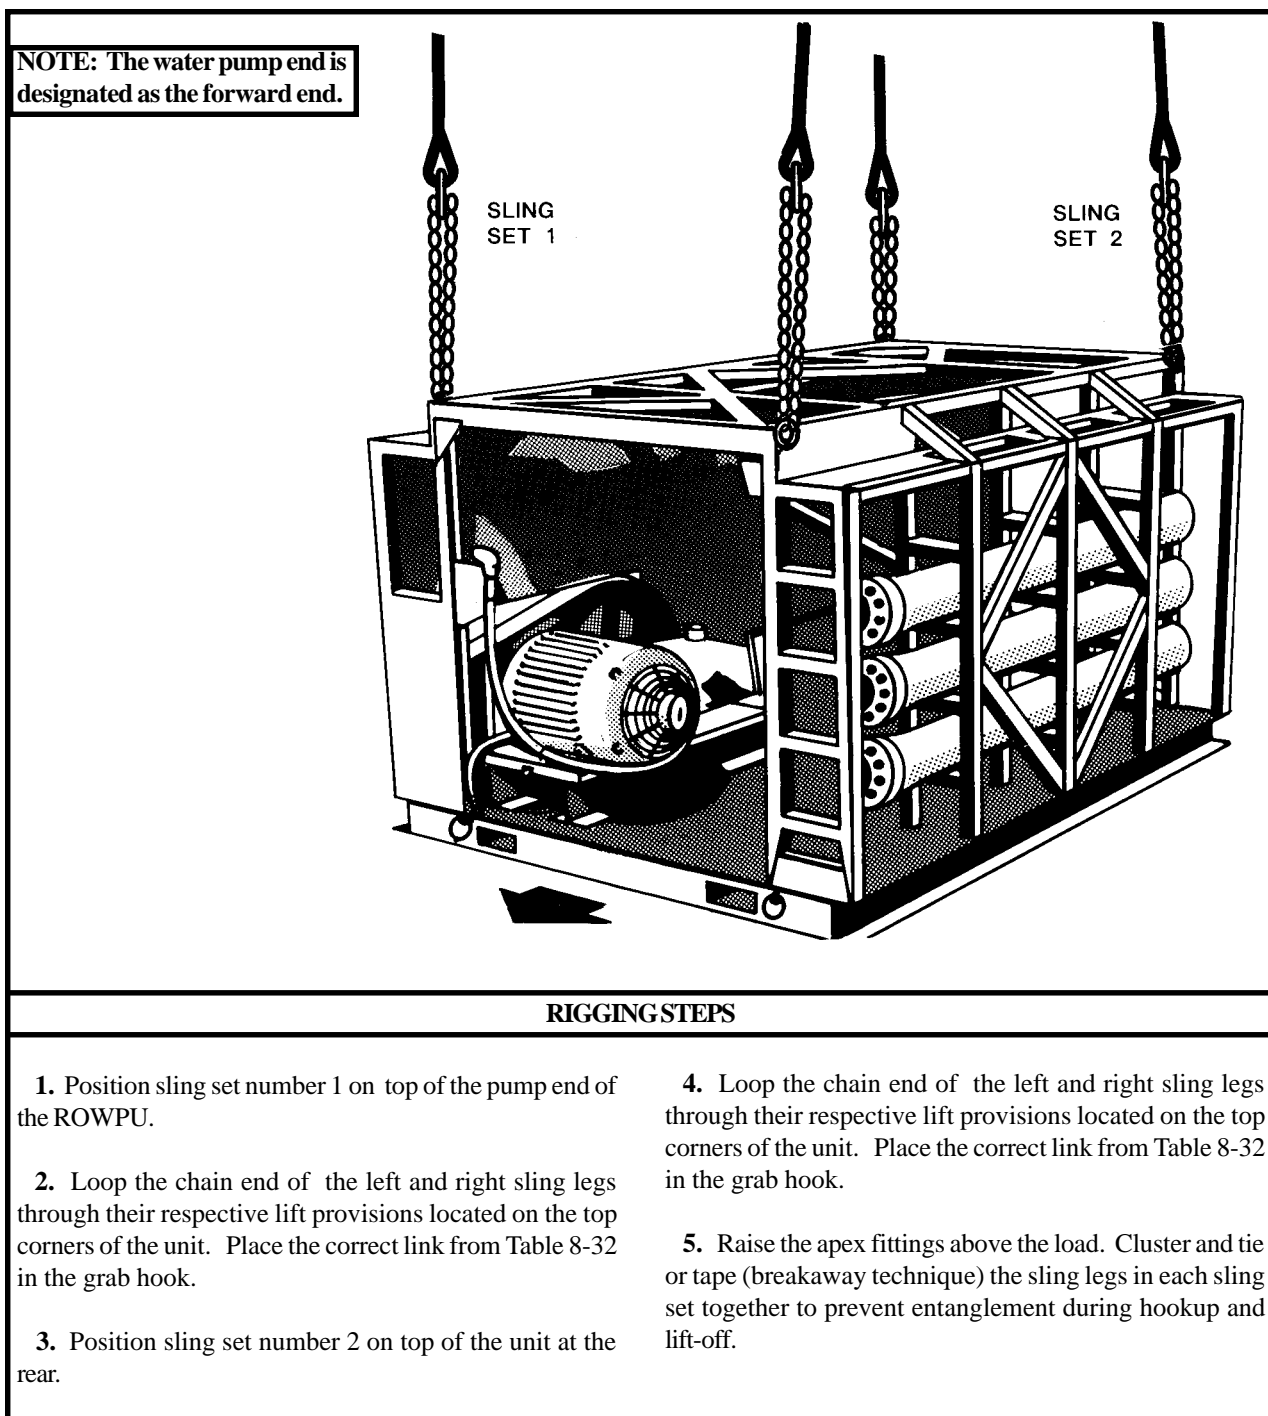

Figure 8-32. Water Purification Unit, Reverse Osmosis
(1) Preparation. Prepare the load using the following steps:
(2) Rigging. Rig the load according to the steps in Figure 8-32.